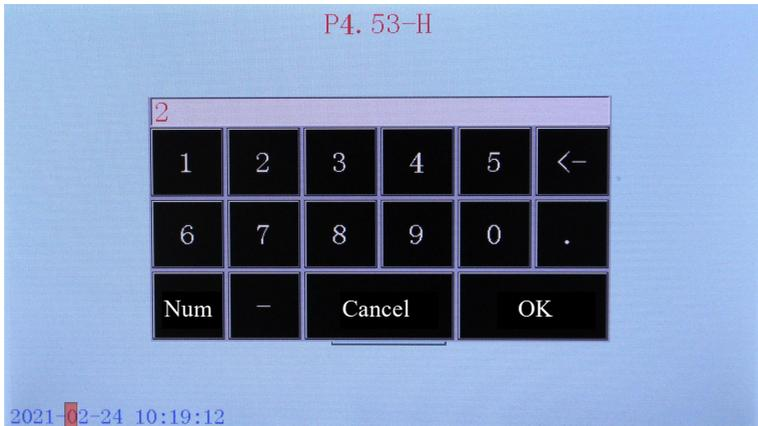

Fig. 2 Time setting interface
- 2) Setting of system time (Performed when the time displayed on the interface is inconsistent with the local time): Click the date or time in the lower left corner, the interface shown in Fig. 2 is displayed, where you can set the corresponding time; press the OK button to change and save modification in turn. After the time is set, the main operation interface will be displayed.